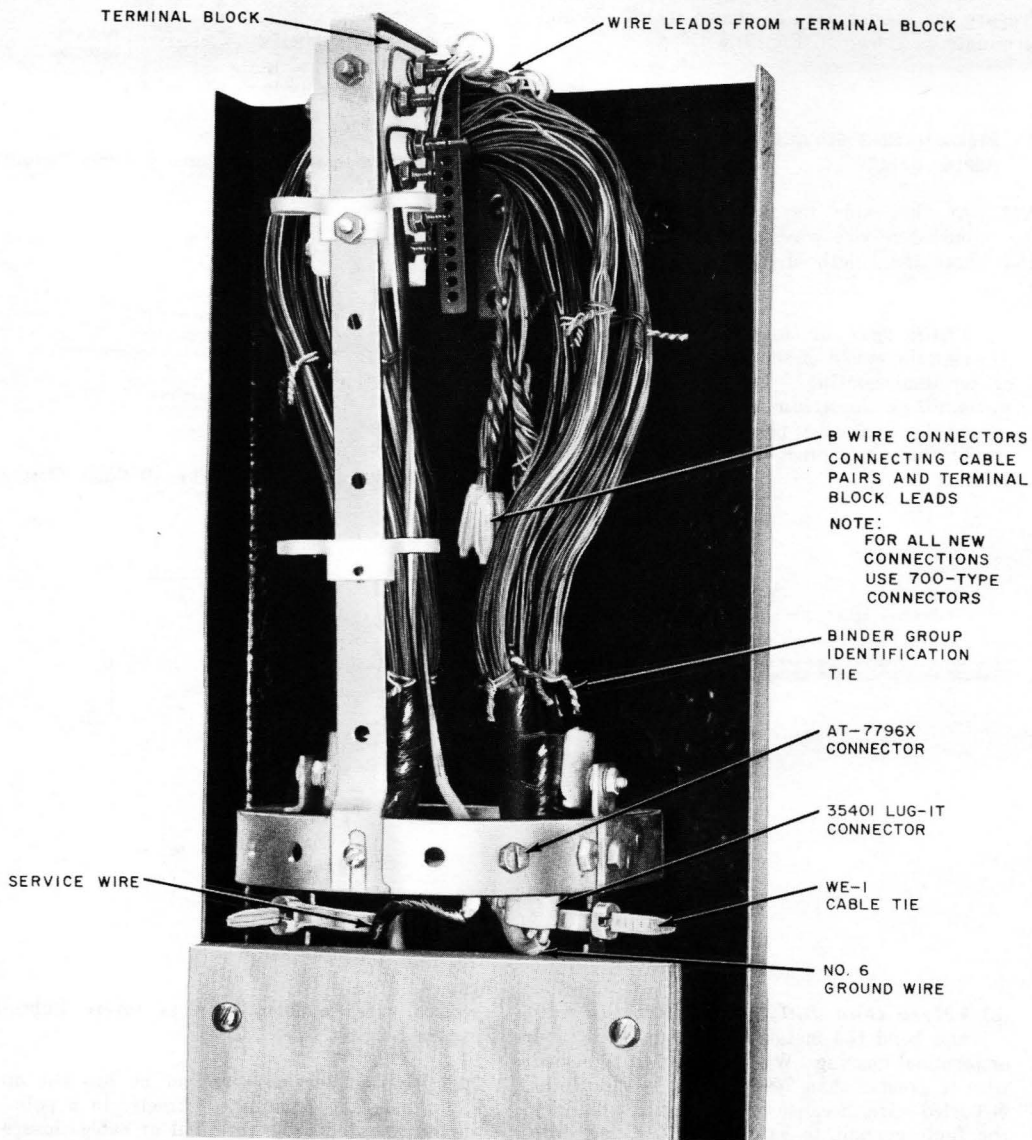

Fig. 16—♦Service Wire Installed—J Cable Closure (Protected)♦
5.09 Insert metal shield of service wire into AT-7796X connector and tighten securely. Refer to Fig. 16.